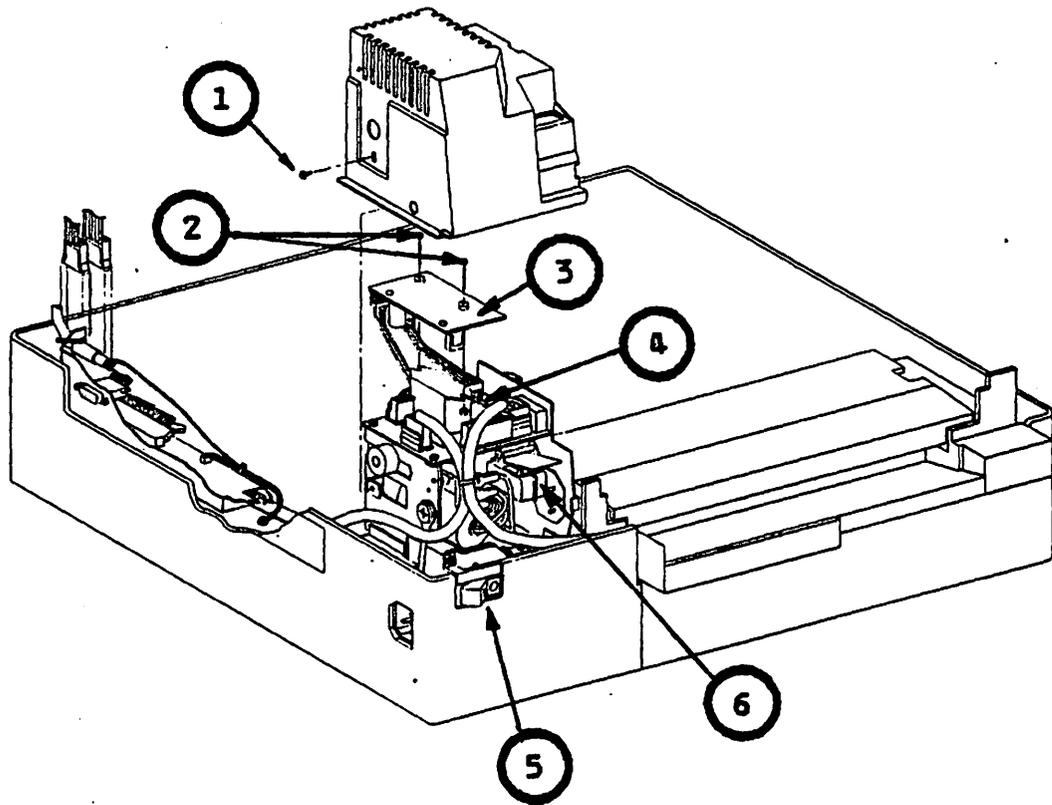

Figure 2-18 : Power Interlock Assembly (Exploded)
The power interlock assembly consists of the AC Driver PCB, which is a two-board assembly (Figure 2-18, #3 and 4); the main power switch (Figure 2-18, #5); and the two microswitches (Figure 2-18, #6), which cut off power to the printer when the printer is opened (upper main body raised).
1. Remove the black flanged screw near the circuit breaker (Figure 2-18, #1) and lift off the plastic assembly cover. The cover swings up and to the rear in an awkward manner, but don't worry -- just keep gently working at it and it will come off.
3. Remove the two fastening screws (Figure 2-18, #2).